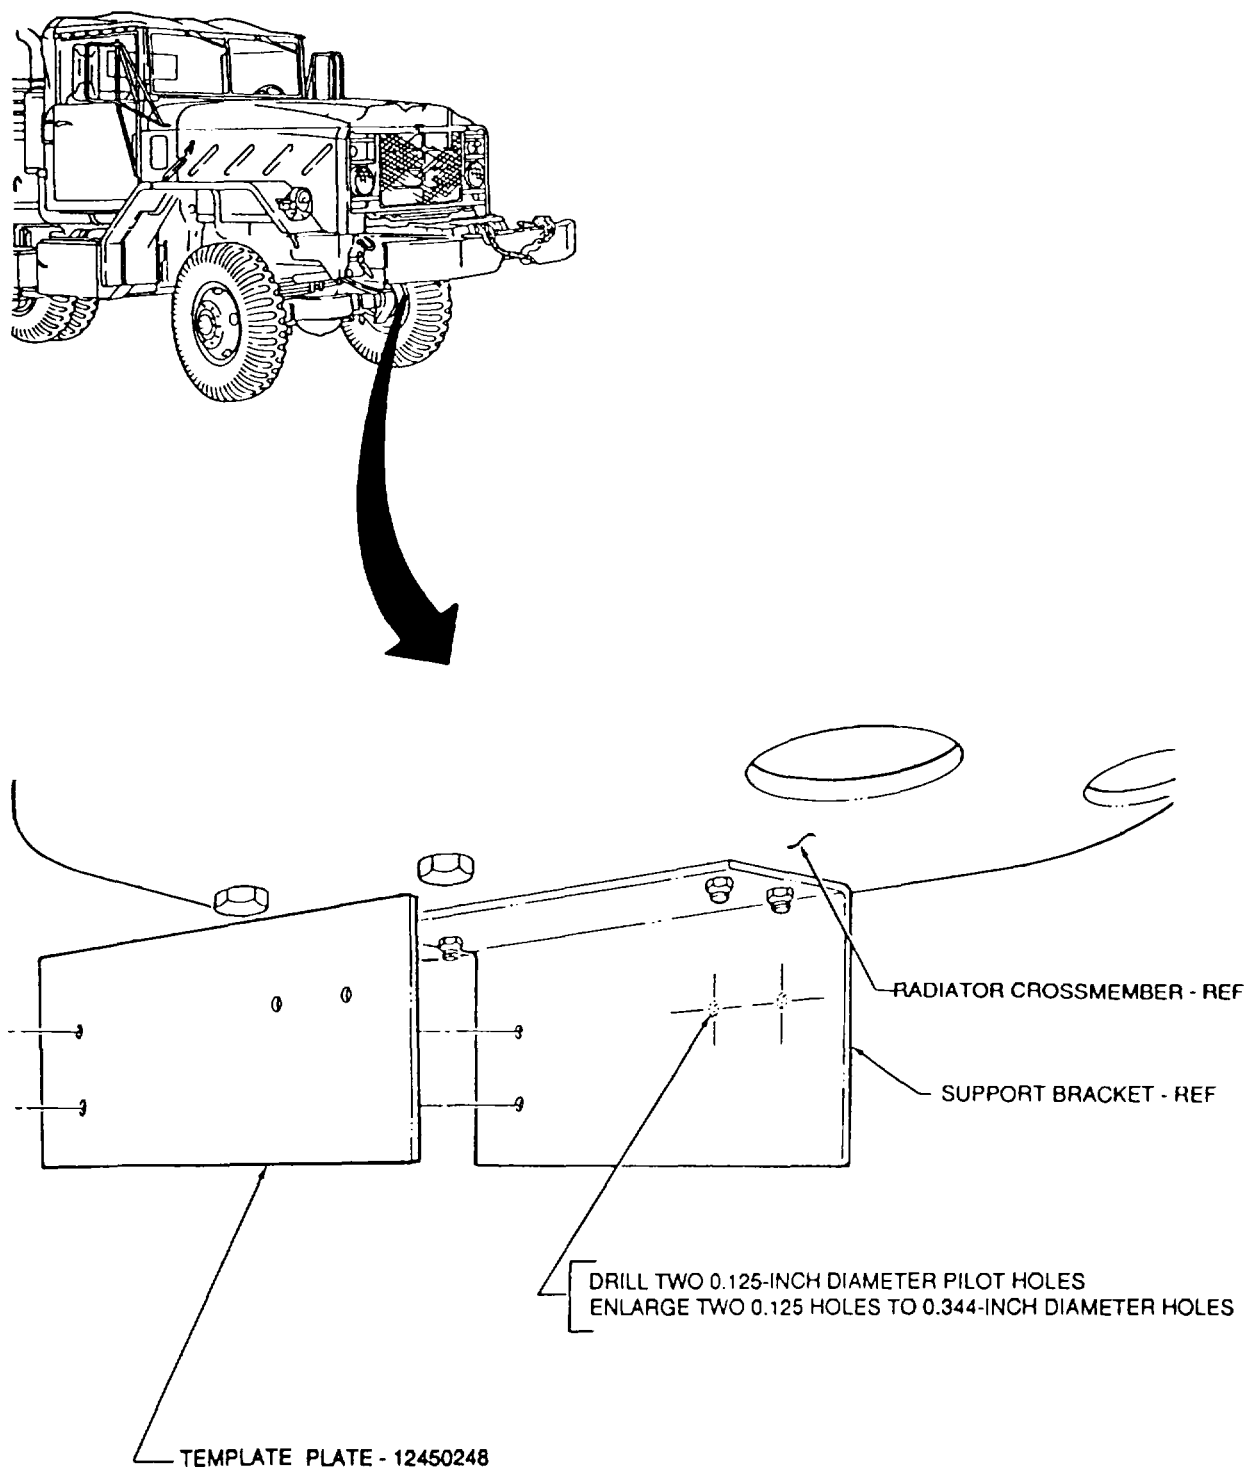

FIGURE 1
(1) Remove battery ground cable. (Refer to TM 9-2320-272-20.)
(2) Drain air reservoirs. (Refer to TM 9-2320-272-10.)
(3) Remove front limiting valve. (Refer to TM 9-2320-272-20.)
(4) Using 12450248 template plate, locate, mark, and drill two 0.125-inch diameter pilot holes in support bracket as shown in figure 1.
(5) Enlarge two 0.125-inch diameter pilot holes drilled in step (4) to 0.344-inch diameter holes as shown in figure 1.